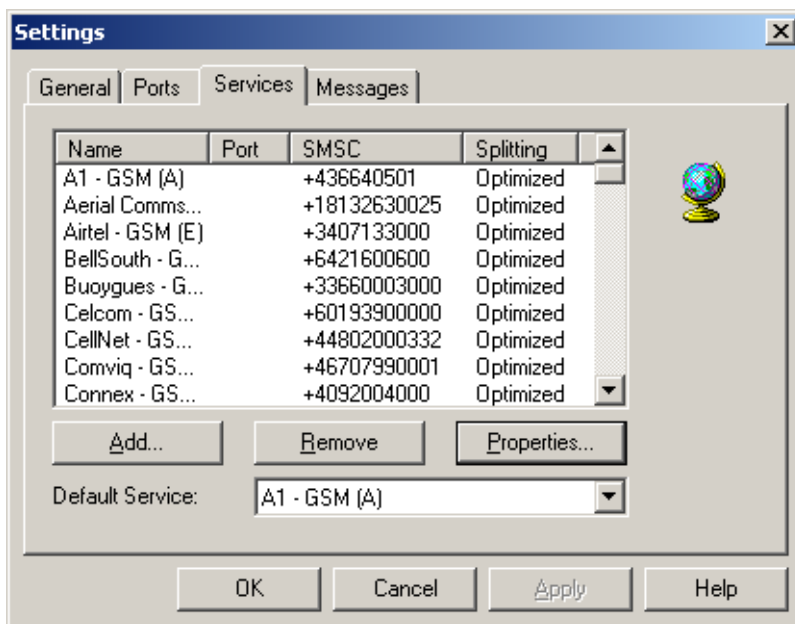

Figure 87. Settings Dialog - Services Tab
19. Select the **Services** tab to produce the view shown in Figure 87.